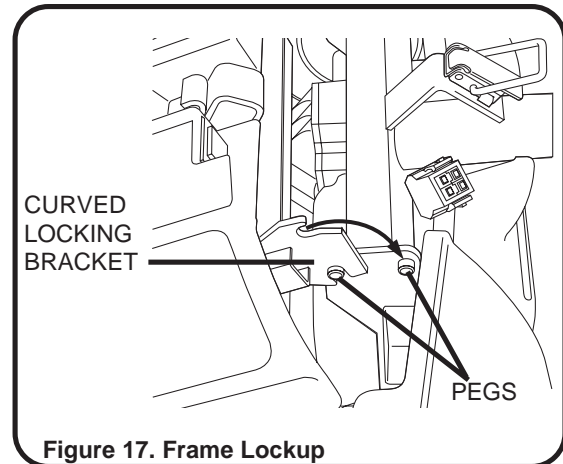

Figure 17. Frame Lockup
2. Lift the front section up until the lower pegs are no longer in the curved locking brackets. **See figure 17.**
2. Align the lower curved locking brackets of the front section with the corresponding pegs on the front of the rear section. **See figure 17.**